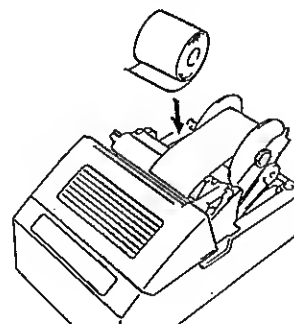

Fig. 2
- 3) Place the paper end on the left holder so that paper will be fed from the bottom of the paper roll. (Fig. 2)